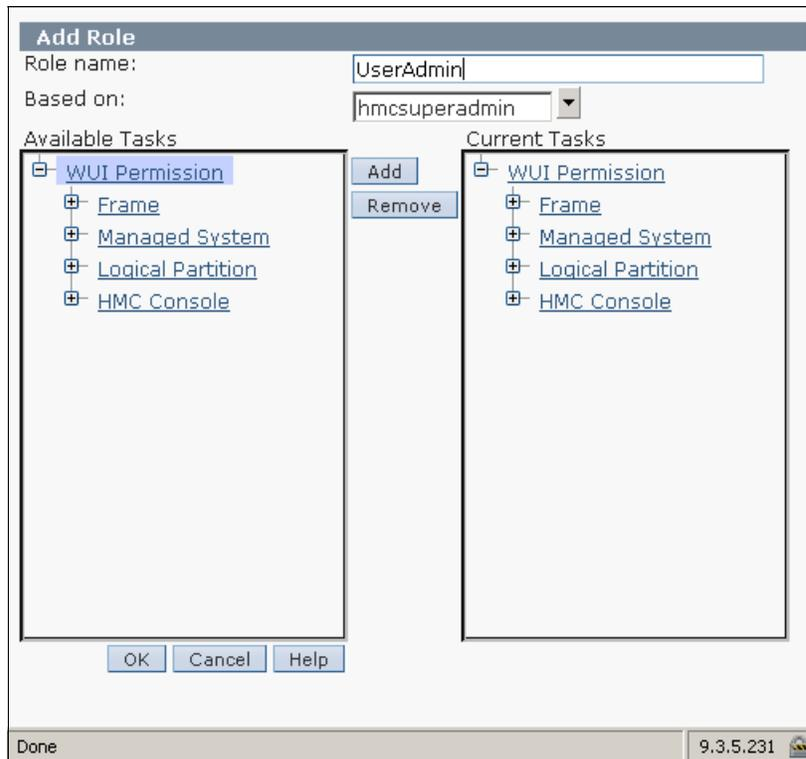

Figure 5-21 Add user role
4. Click **OK** to create a new task role. Figure 5-21 shows an example of creating a new task role.